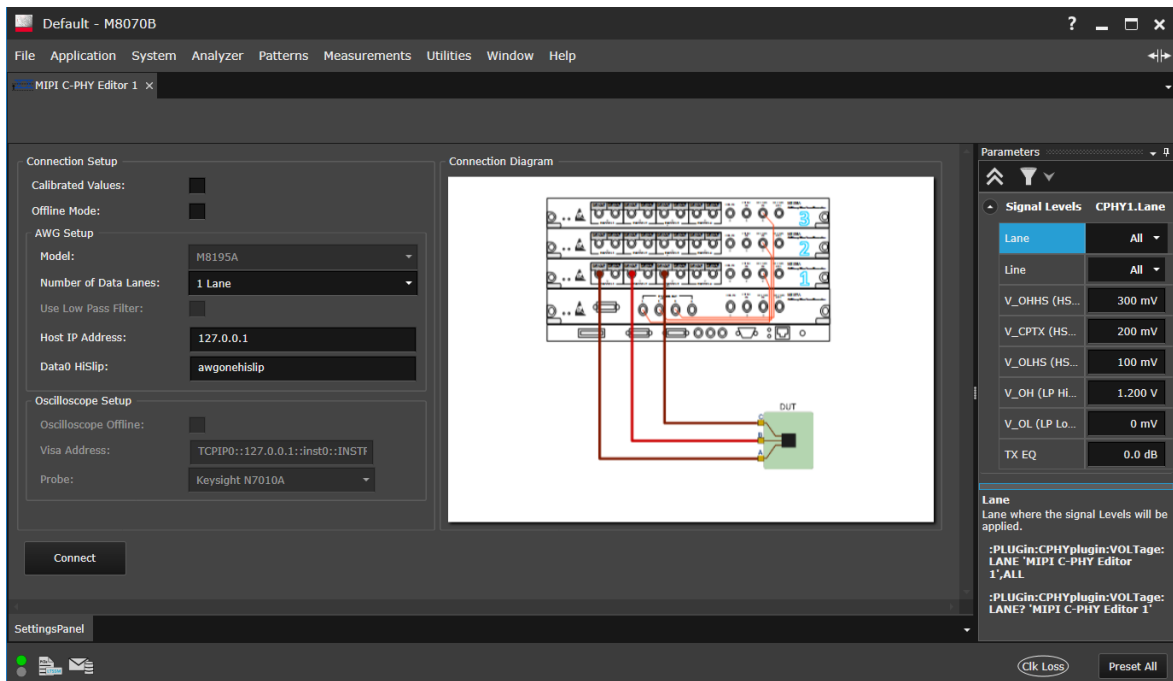

Figure 18 MIPI C-PHY Editor Plug-in User Interface
- 4 The **MIPI C-PHY Editor** user interface appears as shown in Figure 18.